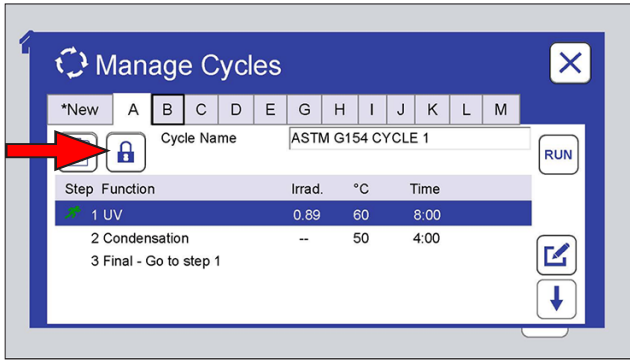
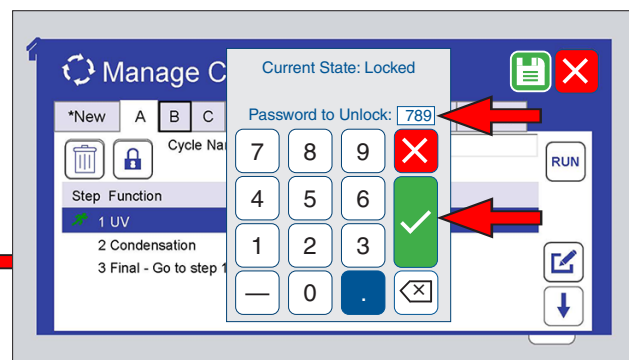

Figure 11.6.3a: Touch the lock icon to lock the cycle.
Figure 11.6.3e: To unlock a cycle, touch the lock icon, enter the password, then touch the check mark button.
- o Lock a cycle to prevent unauthorized changes (Figure 11.6.3a through Figure 11.6.3e).